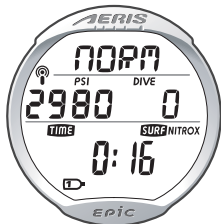

Fig. 35 - NORM SURF MAIN
**NORM SURF MAIN**, information provided includes (Fig. 35):